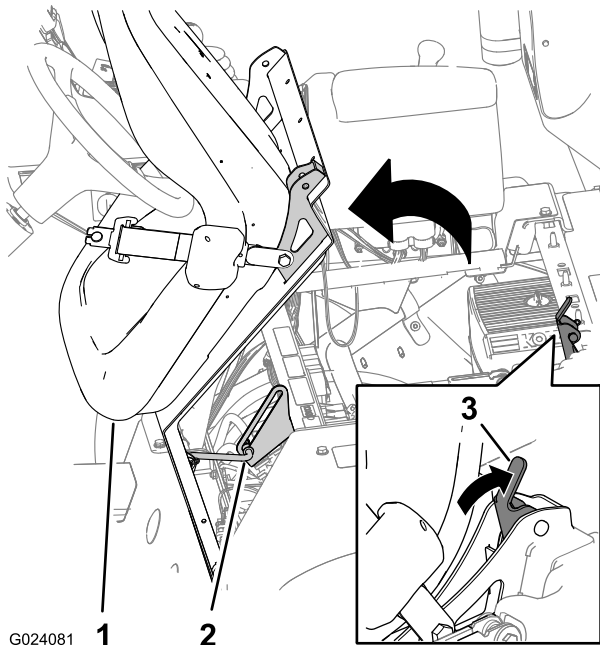

Figure 3
3. Unlatch the seat by pushing the seat-latch handle rearward (Figure 3).
4. Rotate the seat and seat plate forward until the end of the prop rod at the prop-rod bracket is at the bottom of the groove of the bracket (Figure 3).